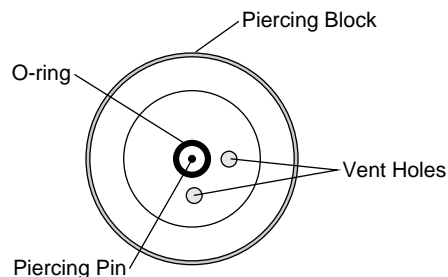

Figure 3. Location of O-ring in piercing block.
4. Place a new O-ring in the groove in the piercing block (Figure 3). Use your finger to press the O-ring into the groove. If the O-ring is not in place when the CO2 cartridge is pierced, the gas will rapidly vent out of the hole on the underside of the mounting block.